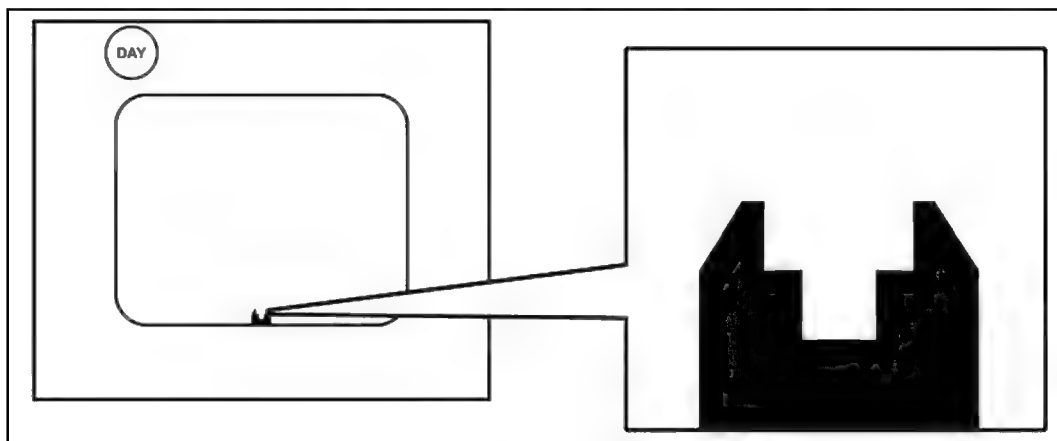

Figure 2-11. Stadia (day FOV).
(1) Day FOV stadia (Figure 2-11) are attached permanently to and appear at the bottom center of the CLU display.